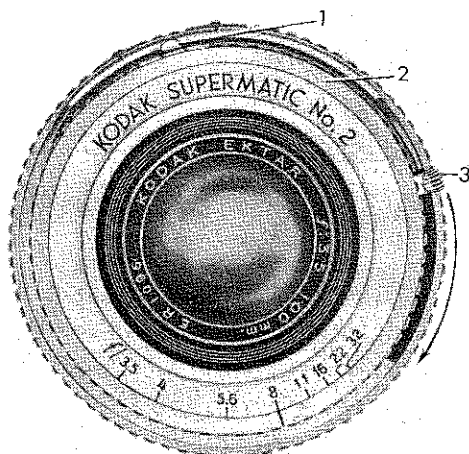

Figure 17—Lens Opening and Delayed Action Controls
camera on a tripod or other support and set the shutter for the proper speed and lens opening. Push the delayed action winding lever (3, figure 17) down as far as it will go. Press the trigger button **AS FAR AS IT WILL GO**. After about 10 seconds the exposure will be made.
f. LENS OPENINGS.—The lens openings are adjusted with the diaphragm pointer (1, figure 17) on the diaphragm control ring (2, figure 17).